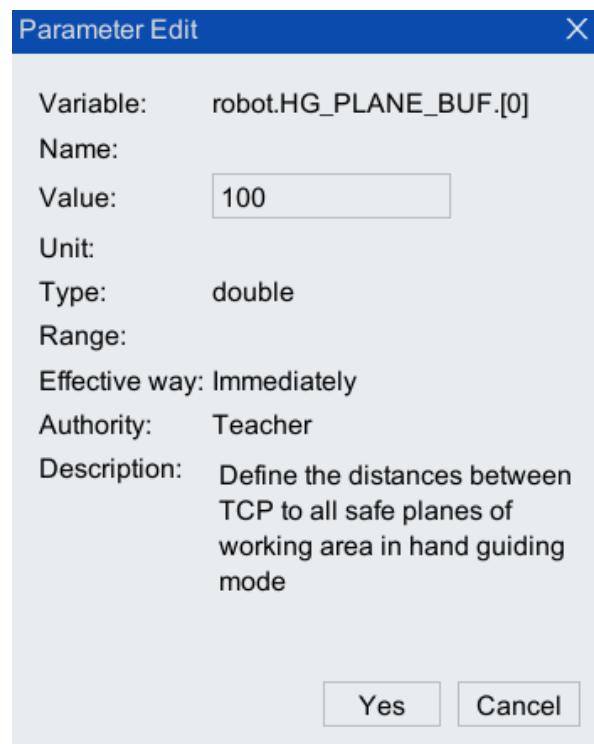

Figure 5-38 Drag teaching safety work buffer area width parameter configuration
Step4. Click <Edit> and configure the [Value] in the pop-up [Parameter Edit] interface (as shown in Figure 5-38).